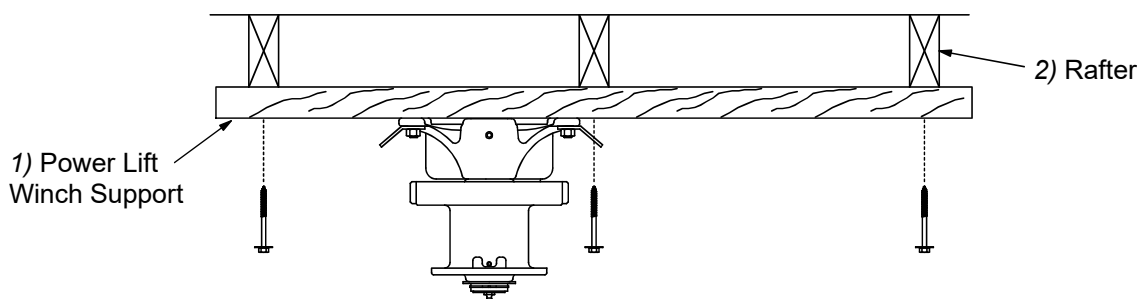

Figure 5. Mounting the Power Lift Winch and Support to the Rafters
- Attach the Power Lift Winch Support (with the Power Winch secured) to the ceiling at the center of the feeder line. See **Figure 5**. The Power Lift Winch Support must be parallel to the feeder line and must span at least 3 rafters in a wood frame house and 2 rafters in a steel frame house.